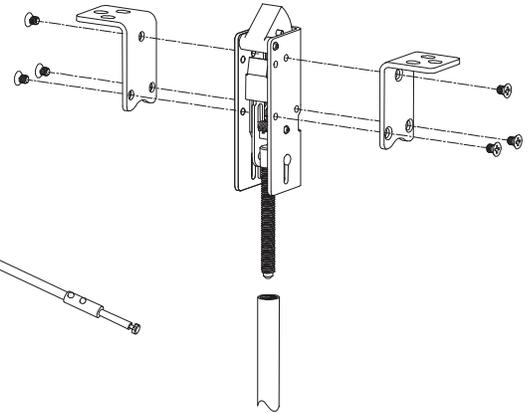

Figure 6-2
- Attach brackets to top latch, then thread rod assembly onto latch (Figure 6-2).